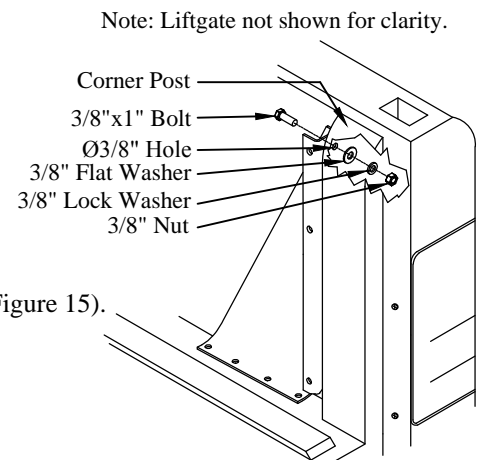

Figure 15: Additional support location.
1. **Locate** the existing 3/8" hole in the mounting bracket (Figure 15).
- (1) 3/8"x1" hex head bolt on the bracket-side (Figure 15).
- (1) 3/8" flat washer, (1) 3/8" lock washer, and (1) 3/8" nut on the truck-side (Figure 15).